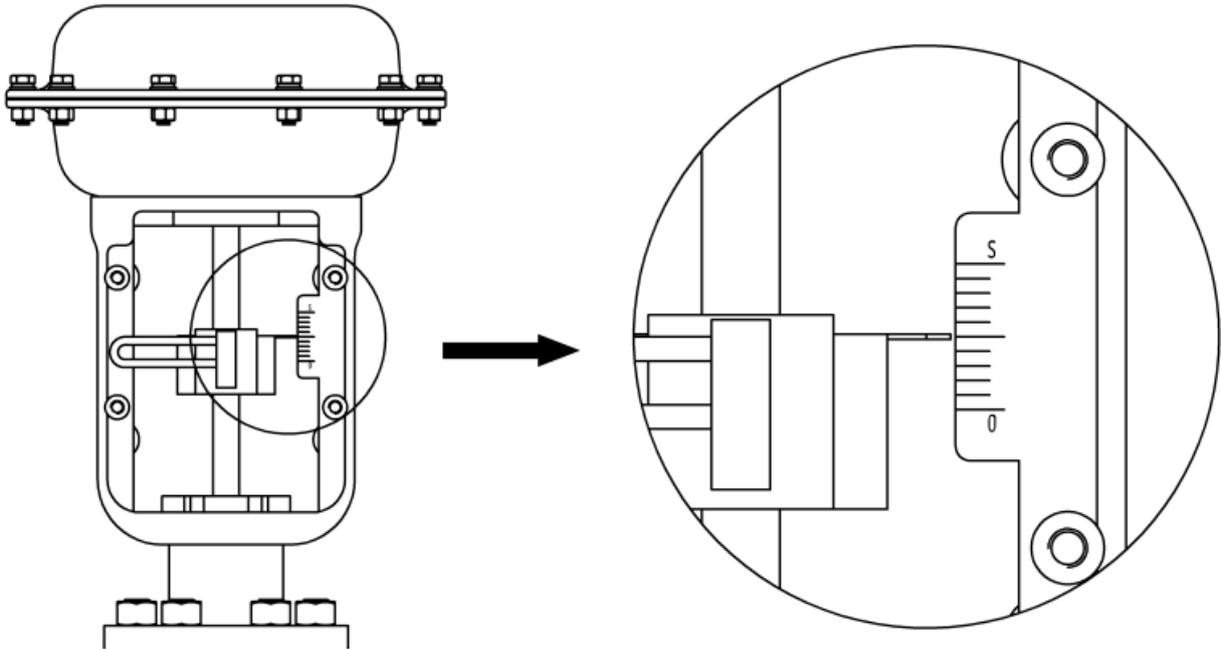

Figure 20. Valve mid-stroke point
- Input air to the valve cylinder, adjust the valve position to the mid-stroke point according to the stroke ruler on the valve, as shown in Figure 20.